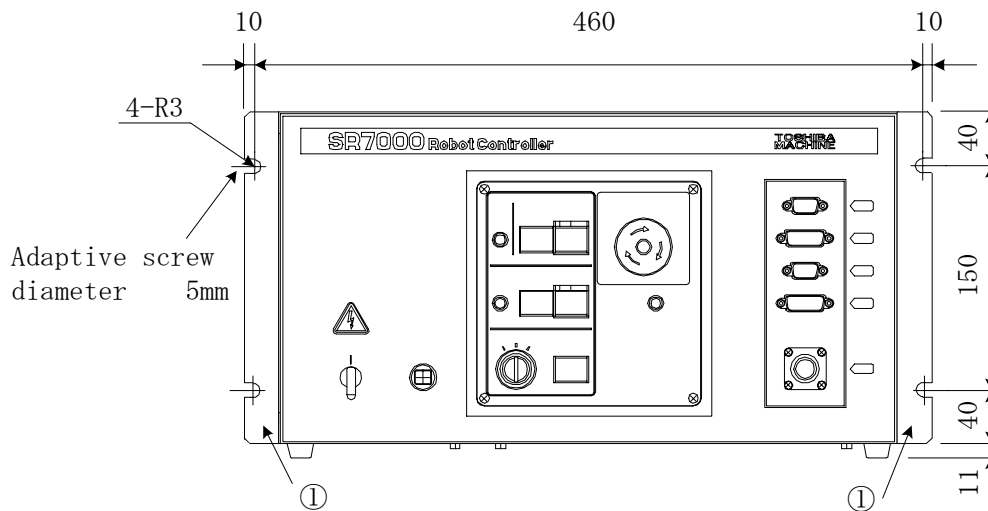

Fig. 2.20 Dimensions of controller rack mounting holes
(① in Fig. 2.20: Side brackets are optional.)